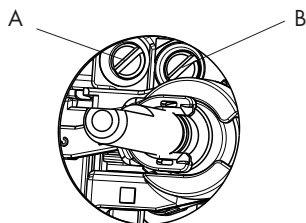

Fig 8
- to adjust to the minimum, use a screwdriver on the screw placed on the tap (Fig. 8) after turning the tap to its minimum position. For LPG (butane / propane) screw tight.